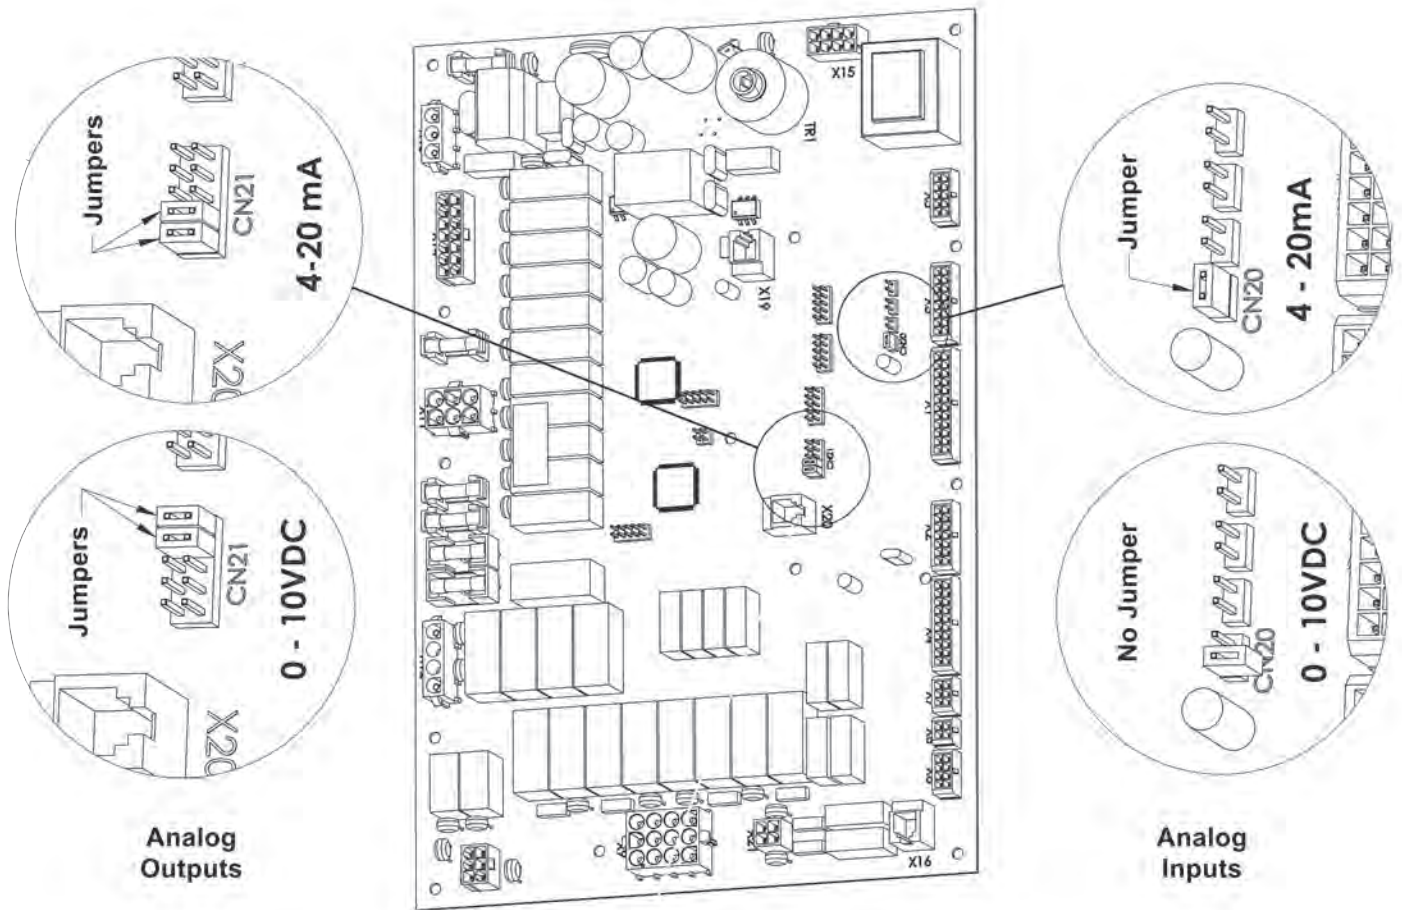

Figure 14. Jumper locations at the inputs
**BMS** - if an analog input (0-10VDC or 4-20mA) from a Building Management System is used as a remote set point or remote firing rate command, wire to terminals 47 and 48 (See Figure 13 on page 36). Polarity is shown on the terminal label. Selecting voltage or current input is accomplished through jumper placement on the control board. See Figure 14. Analog BMS functionality is configured using the touch screen.
**Pump** - when using Vari-Prime pump control, wire the pump speed wires to terminals 49 and 50. Polarity is shown on the terminal label. Selecting voltage or current output is accomplished through jumper placement on the control board. See Figure 14. Vari-Prime functionality is configured using the touch screen.